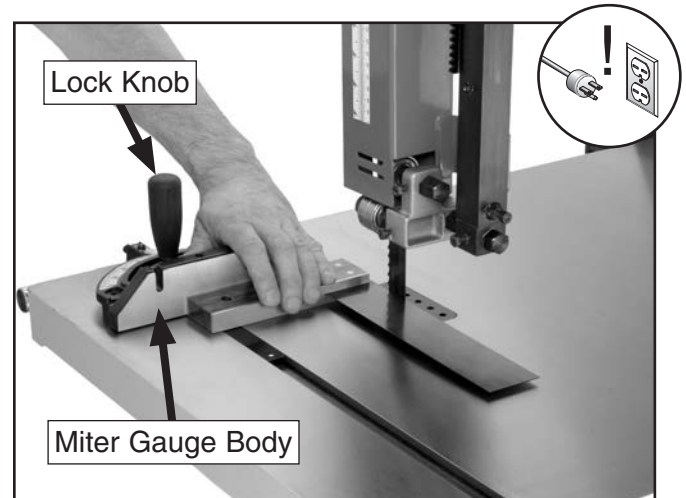

Figure 39. Aligning the miter gauge body with the blade.
- Lay the machinist's square flat on the table and up against the blade without touching any blade teeth, as shown in **Figure 39**.
- Without moving the square, bring the miter gauge body up to the square, as shown in **Figure 39**.